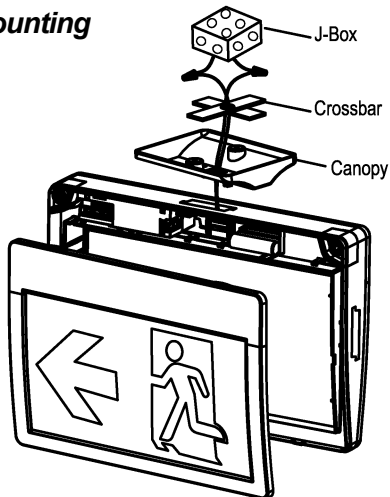

Fig 6
8. Take out pictogram and white lens from front cover, change direction of pictogram properly then assembly again(see Fig 6).